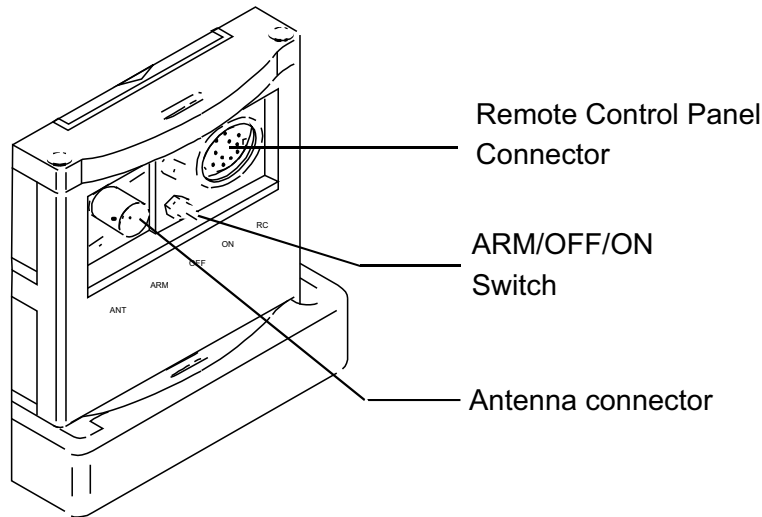

Figure 205: Installation, controls and connectors
- Connect the external antenna to the BNC connector (Refer to Figure 205: Installation, controls and connectors) as shown Figure 2: ELT system
- Connect the Remote Control Panel (or CS144) to the DIN 12 connector (Refer to Figure 205: Installation, controls and connectors) as shown Figure 2: ELT system description page 3.
- Set the 3-position switch (Refer to Figure 205: Installation, controls and connectors) to ARM.
- Switch the ELT to OFF (Refer to Figure 205: Installation, controls and connectors).
- Disconnect the Remote Control Panel (or CS144) from the DIN 12 connector (Refer to Figure 205: Installation, controls and connectors).
- Disconnect the outside antenna from the BNC connector (Refer to Figure 205: Installation, controls and connectors).